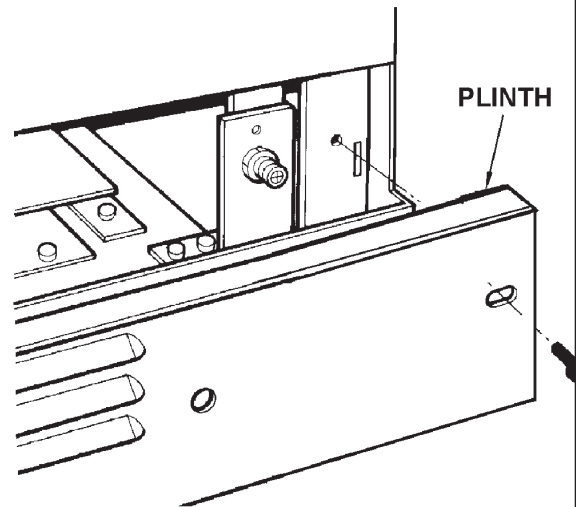

FIG. 16
3. Fit plinth assembly (See Fig. 16).